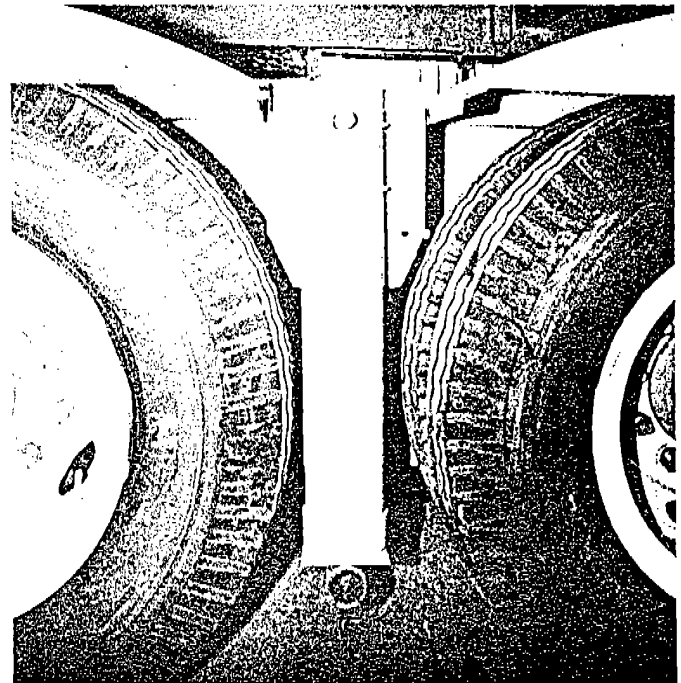

Fig. 97
- e. Continue to raise the landing gear until the fastening plate meets the housing fixture. (Fig. 97)